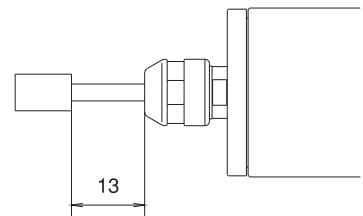

Fig.10
- ②Do not exceed 13mm overhang for mounted grindstones. In case overhang must exceed 13mm reduce the motor speed in accordance with **Fig.10**.
- ③Do not use tools with bent or broken shanks, cracks or excessive runout.
- ④Dress the grindstone prior to use.
- ⑤For grinding the maximum depth of cut should not exceed 0.01mm radially or axially. Reciprocate the tool several times after each in feed step.
- ⑥Always operate tools within the tool manufacturer's recommended speed limits. Use of a tool outside of the manufacturer's recommended speed limits could cause damage to the spindle and injury to the operator.
- ⑦Keep the tool shank and collet clean. If contaminants are left in the collet they can cause excessive runout and damage the tool and spindle.
- ⑧Do not drop or hit spindle.